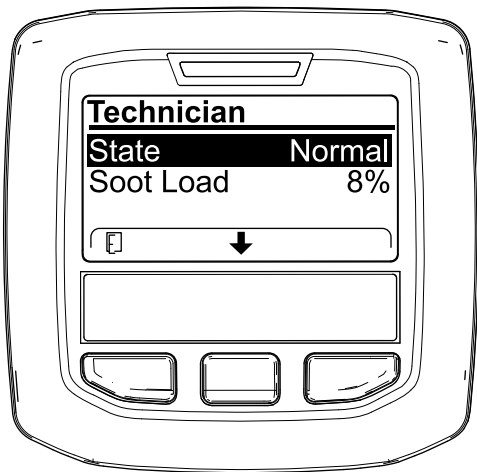

Figure 43
- Use the DPF operation table to understand the current state of DPF operation (Figure 43).